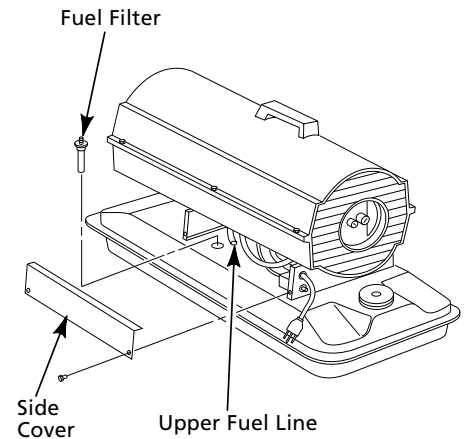

Figure 14 - Fuel Filter Removal, Models 2E510F and 2E511F
3. Pull upper fuel line off fuel filter neck (See Figure 14).
3. Remove 4 side cover screws with a 5/16" nut driver. Remove side cover (See Figures 14 and 15).
12. Replace side cover (See Figures 14 and 15).